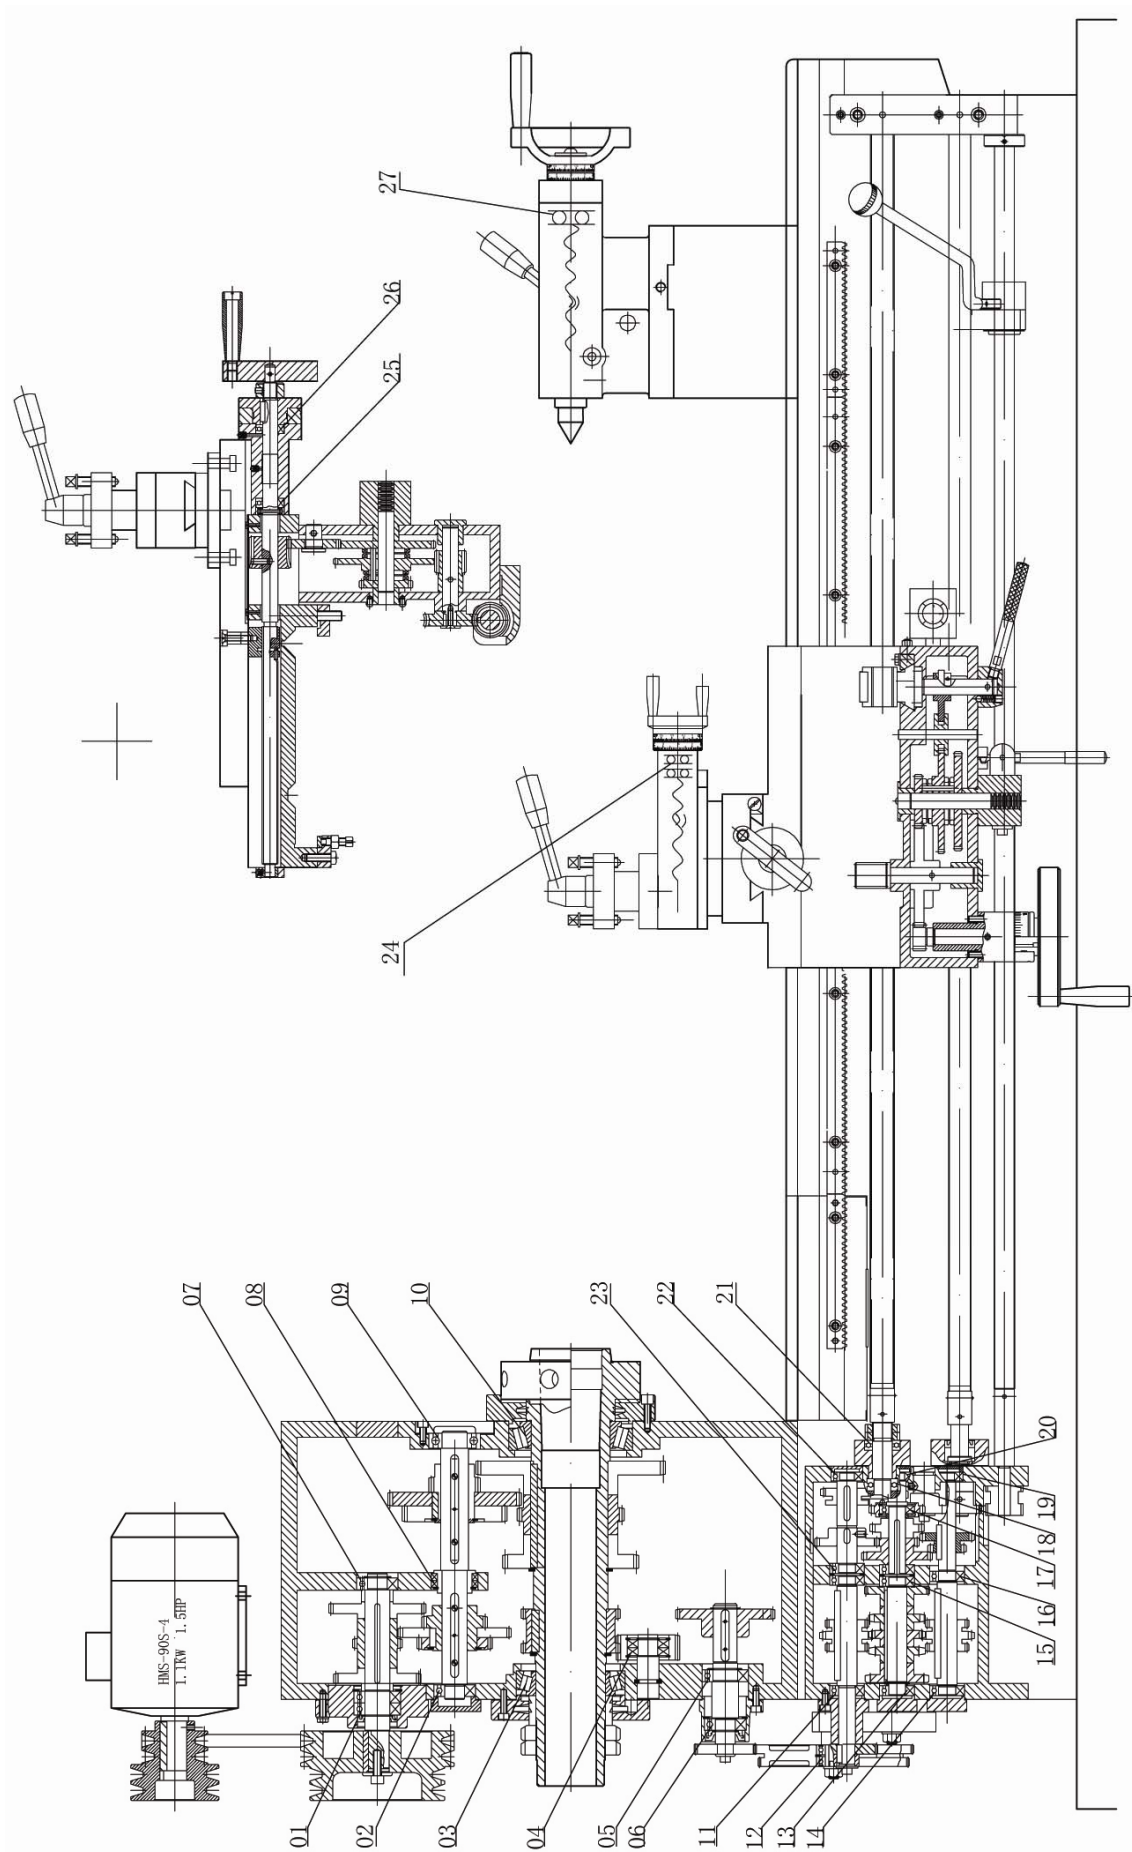

Fig5 Bearing distribution
**BEARING DISTRIBUTION AND LIST - -Fig5. Table 2**
**BEARING LIST (SEE FIG 5)**